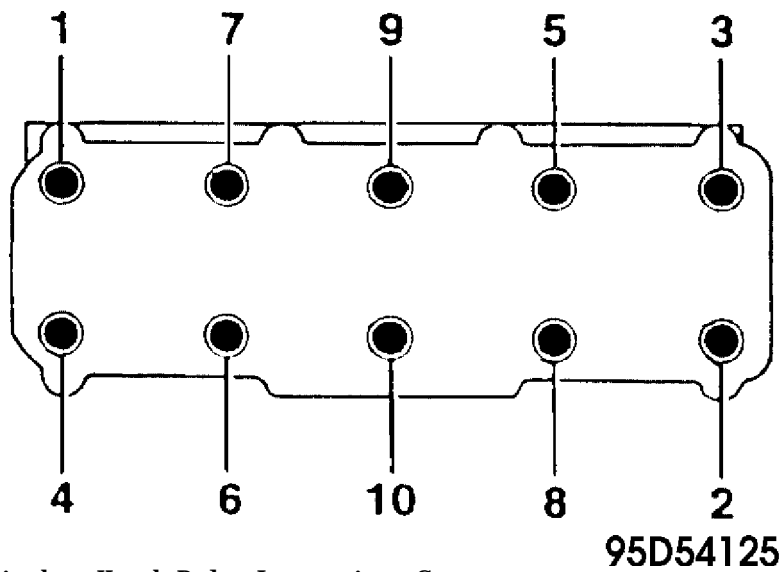

Fig. 4: Cylinder Head Bolt Loosening Sequence
- Follow sequence when loosening cylinder head. See Fig. 4.